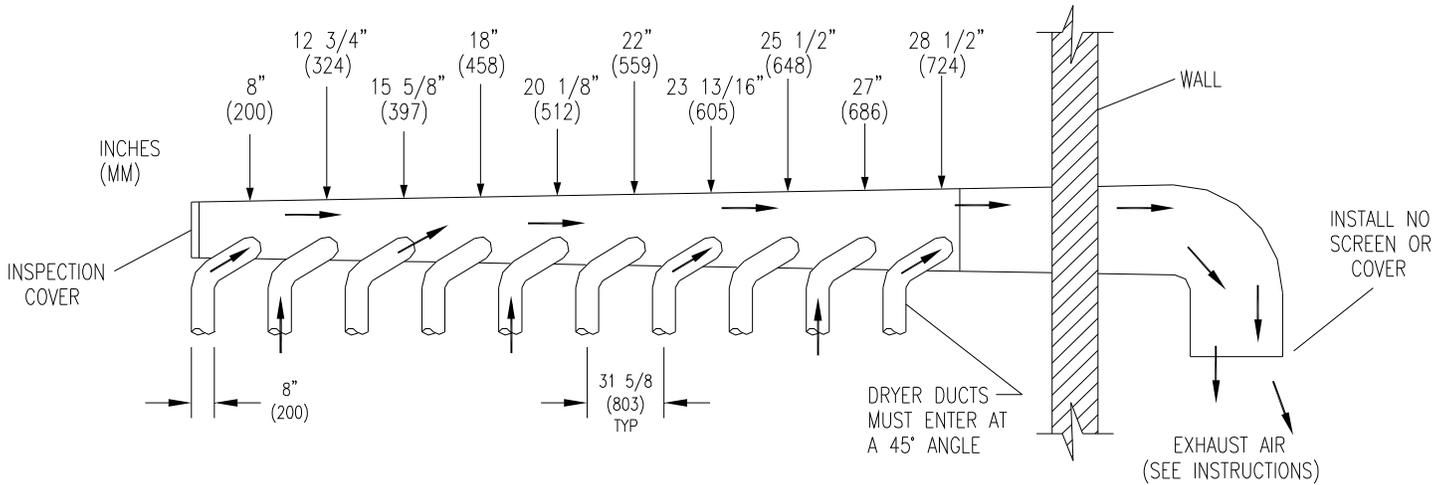

FIGURE 3- Dryer Exhausting Using A Main Discharge Duct.
6. EXHAUST INSTALLATION. (Refer to Figure 3) Exhausting of the dryer(s) should be planned and constructed so that no air restrictions occur. Any restriction due to pipe size or type of installation can cause slow drying time, excessive heat, and lint in the room.
Installation of several dryers, where a main discharge duct is necessary, will need the following considerations for installation (see Figure 3). Individual 8" (200 mm) exhaust ducts from each dryer should enter main discharge duct at a 45-degree angle in the direction of discharge airflow.
NOTE: Never install the individual ducts at a right angle into the main discharge duct. The individual ducts from the dryers can enter at the sides or bottom of the main discharge duct. Figure 3 indicates the various round main duct diameters to use with the individual dryer ducts. The main duct can be rectangular or round, provided adequate airflow is maintained. The total exhausting (main discharge duct plus duct outlet from the dryer) should not exceed the equivalent of 14 ft. (4.25 m) and two elbows. The diameter of the main discharge duct at the last dryer must be maintained to exhaust end.